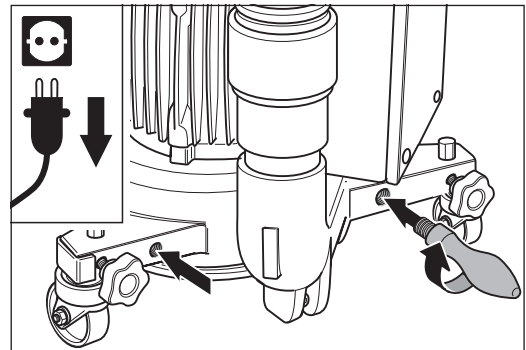

Fig. 32 The machine handle can also be screwed into the fan housing.
- 3** Screw the machine handle into the right-hand side or into the left-hand side of the fan housing and then tighten the handle firmly by hand (fig. 32).